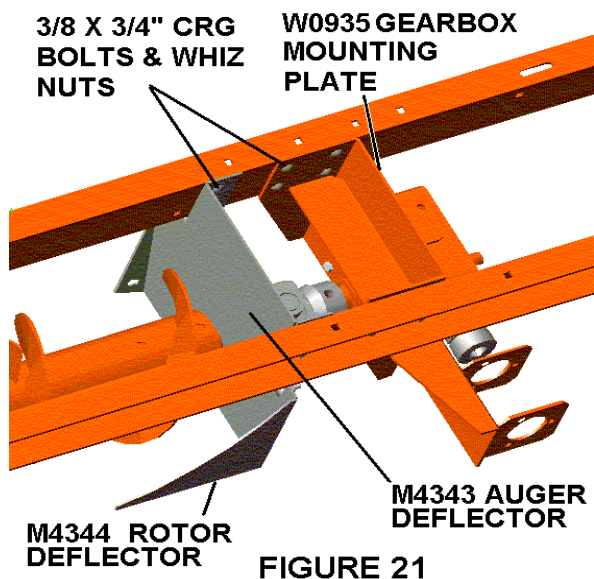

FIGURE 21
- Join the input shaft of the gearbox to the shaft extension with the shaft coupling and (2) 5/16 x 1-3/4" bolts with hex lock nuts.
- Connect the output shaft of the gearbox to the inner auger shaft (inner end of auger has reverse flighting) with the universal joint and (2) 1/2" x 3" bolts and hex locknuts.
- Bolt the rotor deflector to the rear auger deflector with (2) 3/8" x 3/4" carriage bolts and whiz nuts. Place assembly into position over the rear auger shaft.
- Remove the pipe plug located on the top side of the gearbox and replace it with a vent plug. See Fig. 21.
- Bolt the RH and LH channels to the sides of the gearbox mounting plate with (4) 3/8" x 3/4" carriage bolts and whiz nuts on each side. Before tightening, align the top edge of the mounting plate flush and parallel with the top edge of the main channels. Bolt the rear auger deflector to the channels with (2) 3/8" x 3/4" carriage bolts and whiz nuts on both sides. See Figure 21.